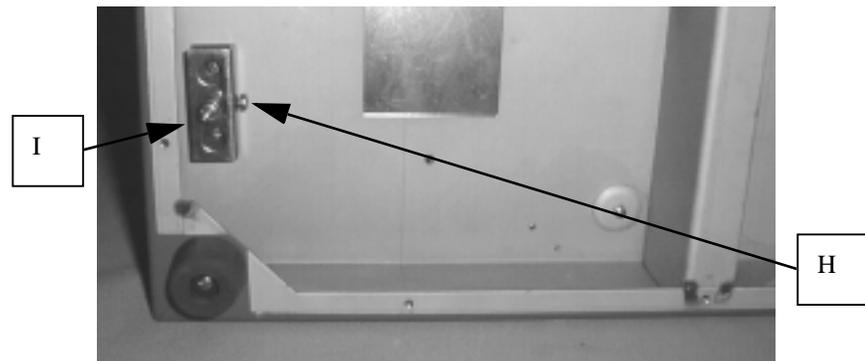

FIGURE 9-3
3. After loosening bind screw 4x10 (H), remove pan head screw 6x35 (I). Fig.9-3